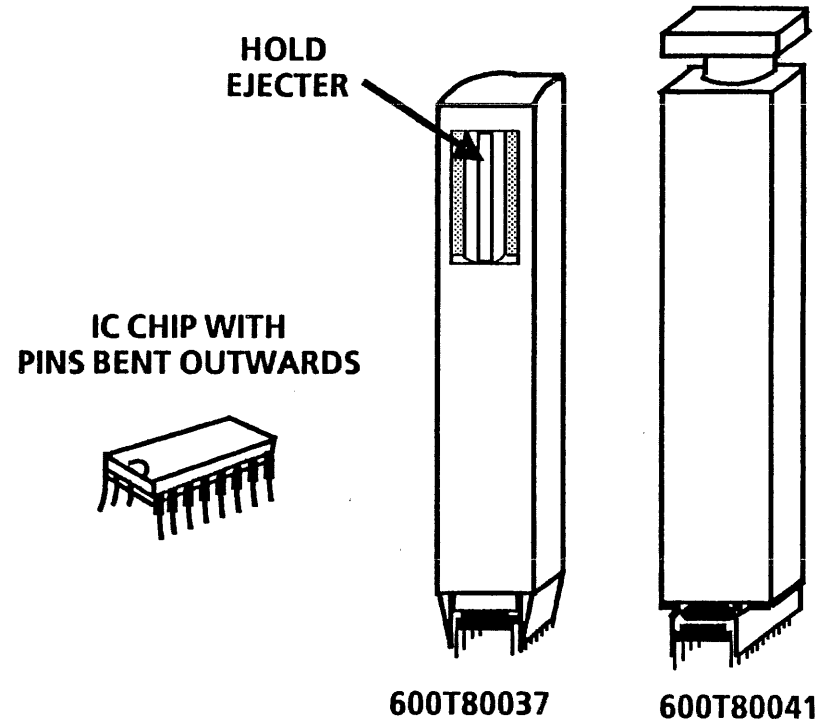

Figure 4-15 Straightening Bent IC Chip Pins
REPLACEMENT (Figures 4-15, 4-16 and 4-17)
2. If the pins are bent outwards, they must be straightened before the IC Chip can be installed. (Figure 4-15)
- b. Gently push the IC chip into the correct insertion tool with your fingers or place the IC chip on a flat surface and use the tool to pick up the IC chip, rocking the tool back and forth gently. (When using the fourteen to sixteen pin insertion tool [600T80037] to pick up an IC chip, you must hold in the ejector button.) (Figure 4-15)